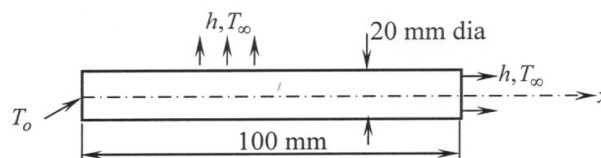

Fig. Q 10
- 10. Fig. Q 10 shows a uniform aluminium fin of diameter 20 mm. The root (left end) of the fin is mainatined at a temperature of $T_0 = 100^\circ\text{C}$ while convection takes place from the lateral (circular) surface and the right (flat) edge of the fin. Assuming $K = 200 \text{ W/m}^\circ\text{C}$, $h = 1000 \text{ W/m}^2\text{-}^\circ\text{C}$ and $T_\infty = 20^\circ\text{C}$. Determine the temperature distribution in the fin using a two-element idealization. 20